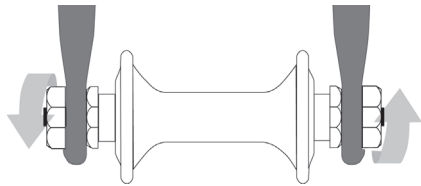

fig. 11
3. Hex nuts or hex key bolts which are threaded on to or into the hub axle (bolt-on wheel, **fig. 11**).